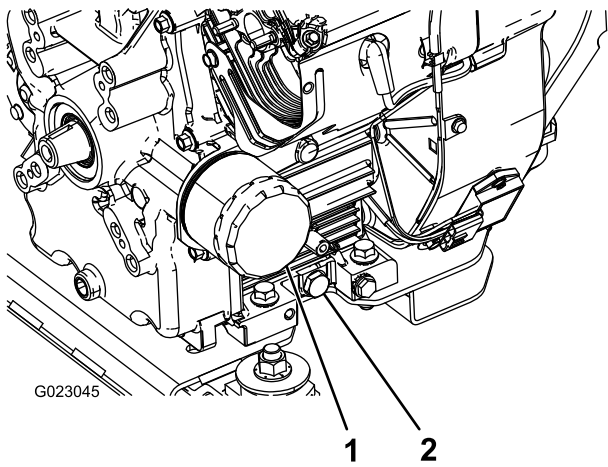

Figure 38
5. Remove the drain plug (Figure 38).
2. Remove the oil filter (Figure 38).
5. Install the replacement oil filter to the filter adapter. Turn the oil filter clockwise until the rubber gasket contacts the filter adapter, then tighten the filter an additional 1/2 turn (Figure 38).